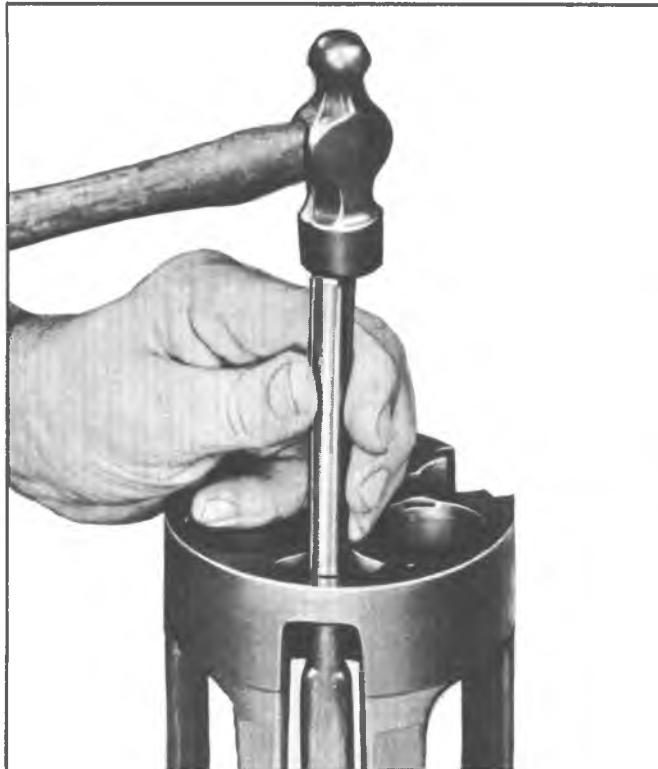

Fig. 18-Unseating Discharge Crossover Tube
2. Use an old discharge tube to drive discharge tube out of cylinder (fig. 18): Drive from REAR of cylinder.